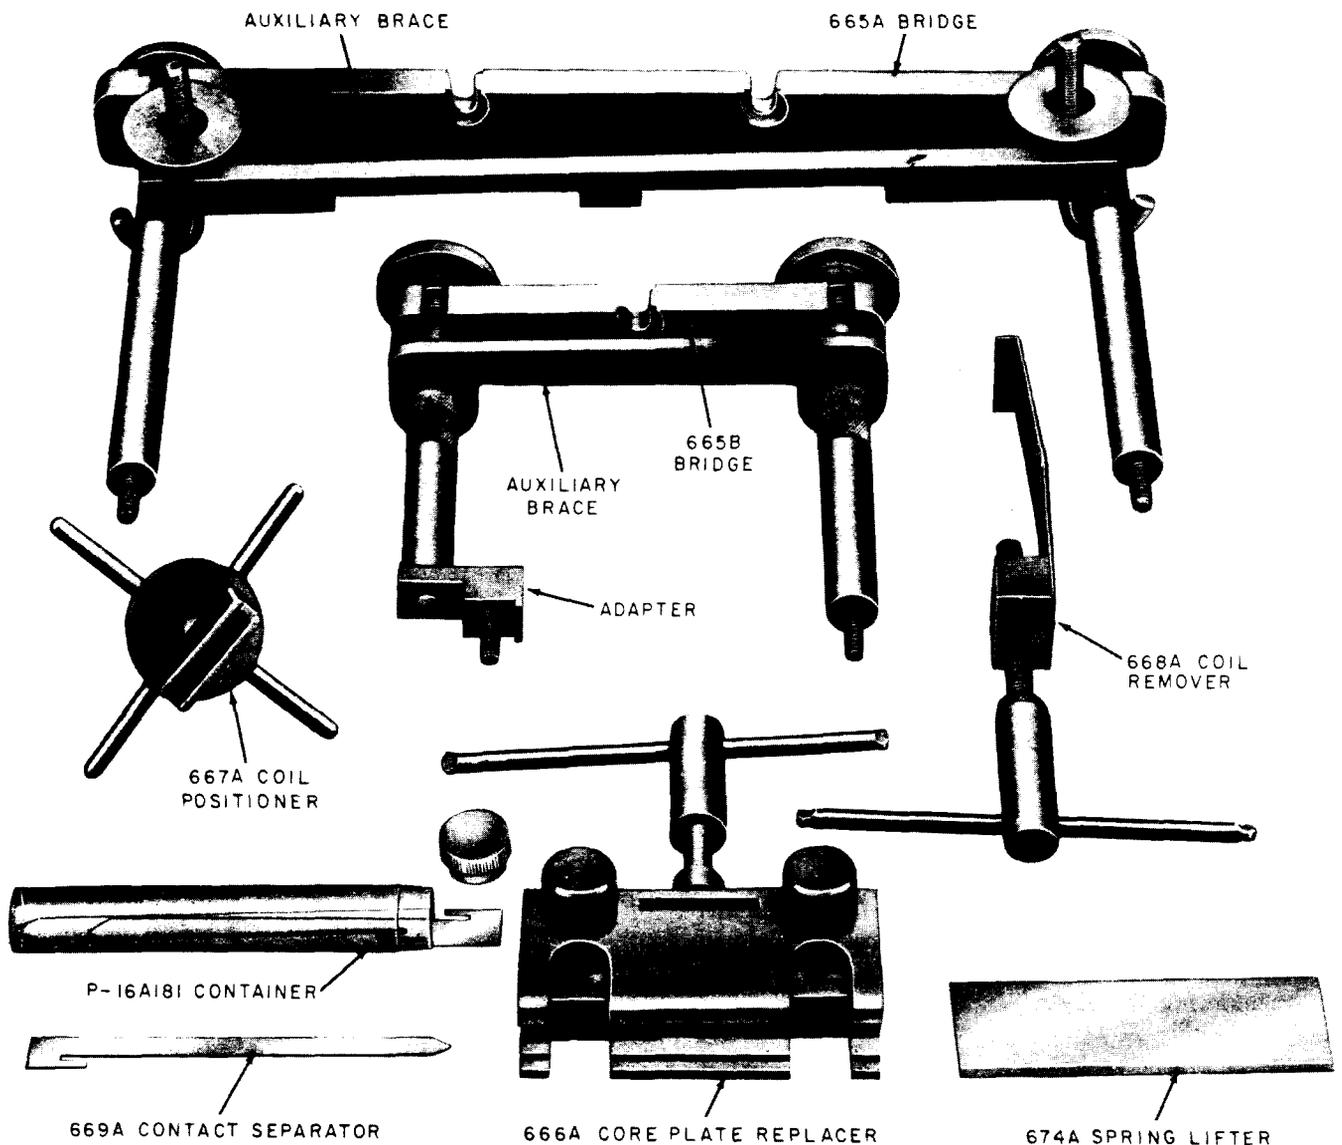

Fig. 3—Tools Included in 1012A Tool Kit
**3.02** Figure 3 shows the tools comprising the 1012A tool kit used in replacing parts of